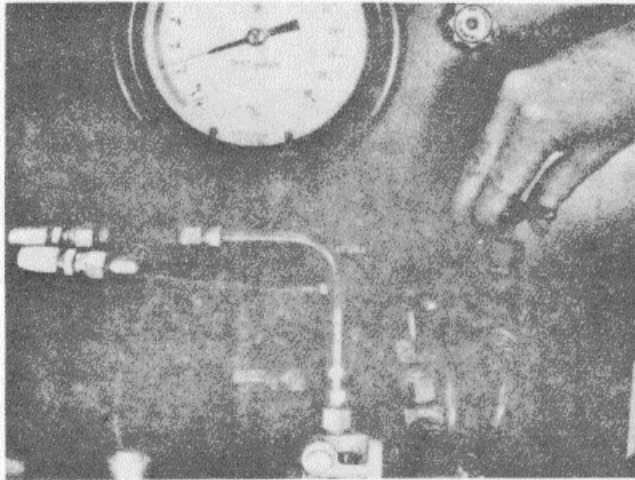

Figure 16G-81. Open Test Stand Idle Orifice Valve
2. Main flow control valve is closed. Open idle orifice valve or leakage flowmeter, if available, Figure 16G-81.